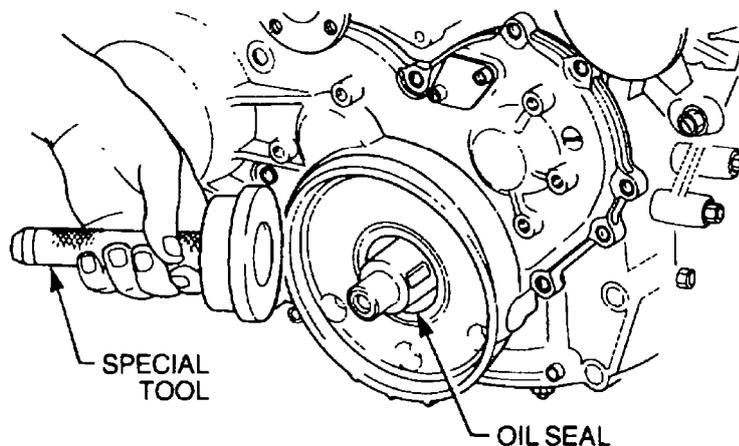

Figure 38 Crankshaft Front Oil Seal Installation
- b. Install the seal using special tool 18GA092 (Figure 38).